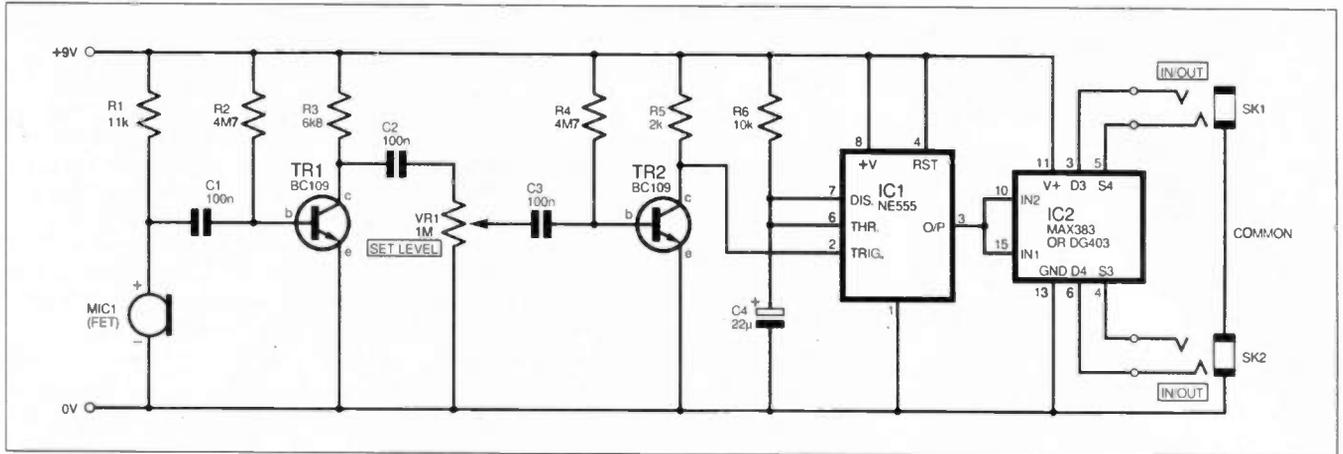

Fig. 2. Circuit diagram for the Background Noise Headphone Interrupter.
**I**N order to enable a headphone wearer to listen to louder music, yet also be aware of a telephone call or knock at the door, I designed the circuit of Fig. 2 which is intended for use with stereo headphones.